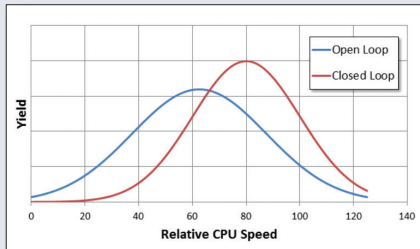

Figure 1: Shift the yield distribution to get the products that customers want.
- **Tailoring your yields:** Whether customers demand faster computation speed, lower power consumption or other specific device requirements, FabGuard APC adjusts process recipes to drive product distributions toward the products consumers want and need. (Figure 1) Better yields result in fewer wafer starts for the same number of die, resulting in higher capacity and lower wafer costs.